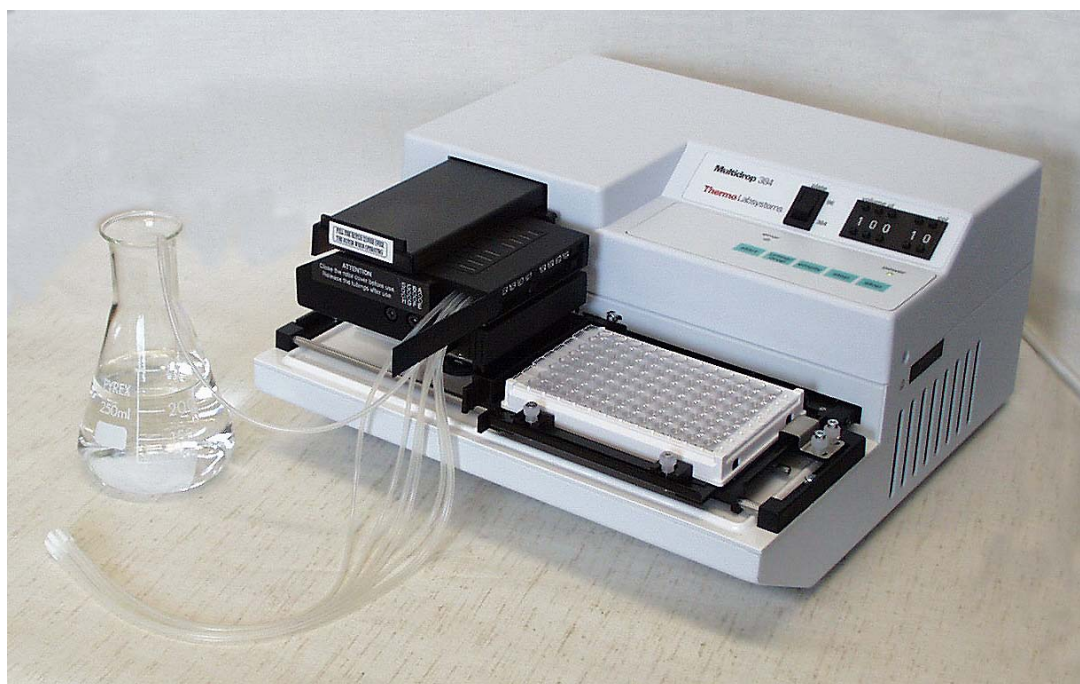

Fig. 7.8 8 x 12 well microstrips adjusted onto the plate adapter
6. Use 8 x 12 well microstrips and adjust the Multidrop 384 for 100 µl in 10 columns and set the plate switch (**plate**) for 96-well plates (*Fig. 7.8*).